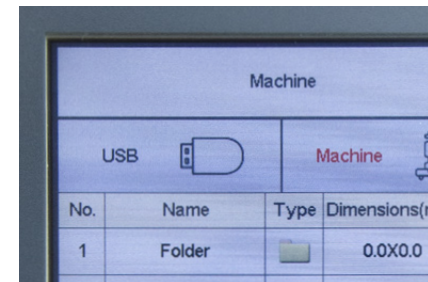

Figure 69
3. Press the Design key to enter the USB/embroidery machine's memory interface. Select the USB icon. **See Figure 69.**